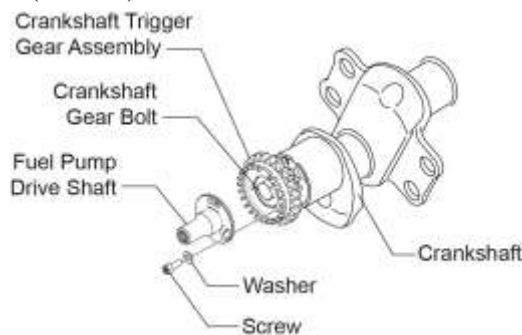

Figure 107
- (2) If clearance is found, remove the crankshaft gear bolt and crankshaft trigger gear assembly.
- (3) Make sure the mating surfaces of the crankshaft trigger gear assembly and crankshaft counterbore are clean and dry and that there is no debris.
- (4) Reinstall the crankshaft trigger gear assembly and crankshaft gear bolt. Repeat the initial torque and seating check above.
- (5) Try again to put a pointed 0.001 in. feeler gage or shim stock between the crankshaft trigger gear assembly pilot flange and crankshaft counterbore at each of the three scallops on the crankshaft trigger gear assembly pilot flange.
- K. Install the fuel pump drive shaft (Figure 107) with three screws and three washers. Torque the screws to 100 in.-lb. (11 Nm).